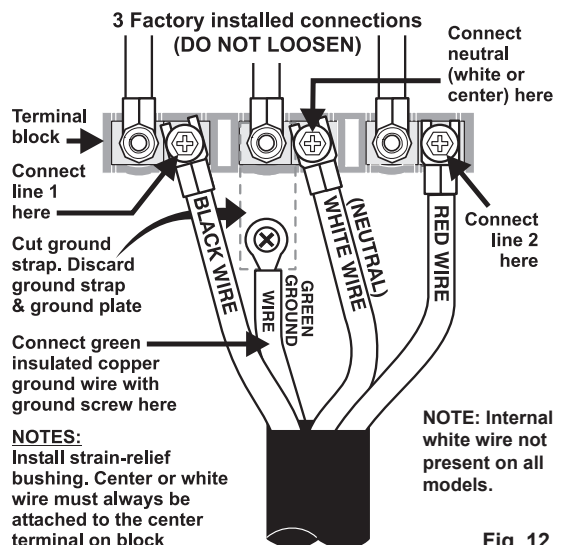

Fig. 12
### (4-Wire Connection Instructions - Refer to Fig.12)
- Connect the ground wire (Green) lead with the eyelet to the frame of the appliance with the ground screw using the same hole in the frame where the ground screw was originally installed (See Fig. 12).